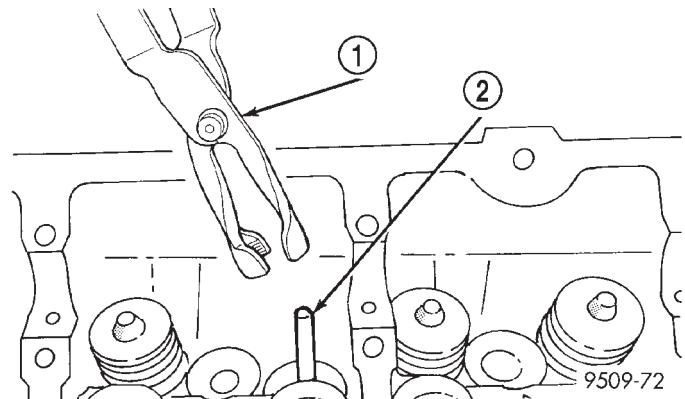

Fig. 124 Valve Stem Oil Seal Tool
(1) Coat valve stems with clean engine oil and insert in cylinder head.
(2) Install new valve stem seals on all valves using a valve stem seal tool (Fig. 124). The valve stem seals should be pushed firmly and squarely over valve guide.